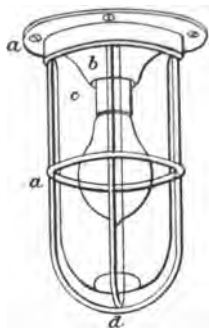

Fig. 75.—Stokehole, Hold or Steerage Lamp.
*Roof-lamps.*—These are made in two leading forms. Fig. 75 represents the usual roof pendant, which may or may not be surrounded by a guard, for use in stoke-holes. For the latter purpose it is made so that it may be easily removed from its plate, *a*, during coaling or when liable to injury. A